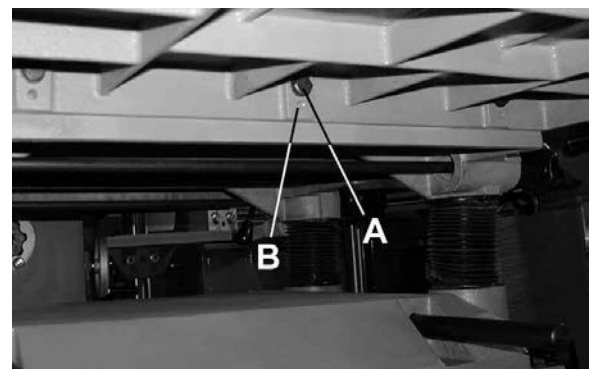

FIGURE 12
Solid table extensions are supplied and can be assembled to the front and back of your Planer table. To install the front extension table, hold the extension table against the front of the table and using Hex. Bolts (A) Fig.12 supplied, fix the extension table to the table.
To adjust the extension table parallel with the table surface, place a straight edge on the top of the table and extension table. Adjust the position of the extension table by using the set screws (B) Fig.12 found underneath until the table extension and the main table are perfectly parallel.